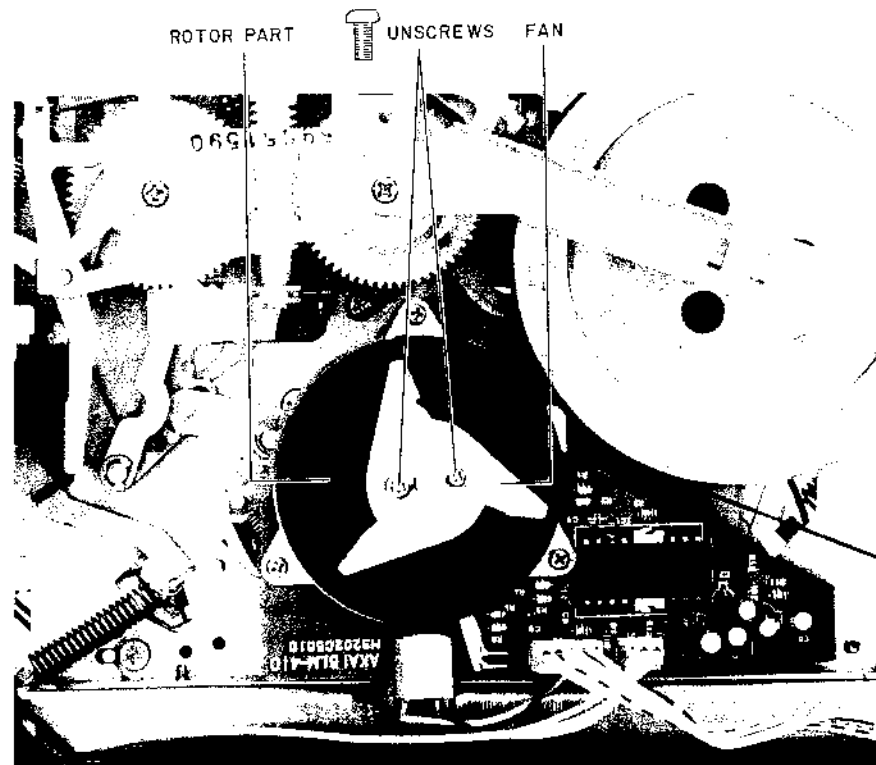
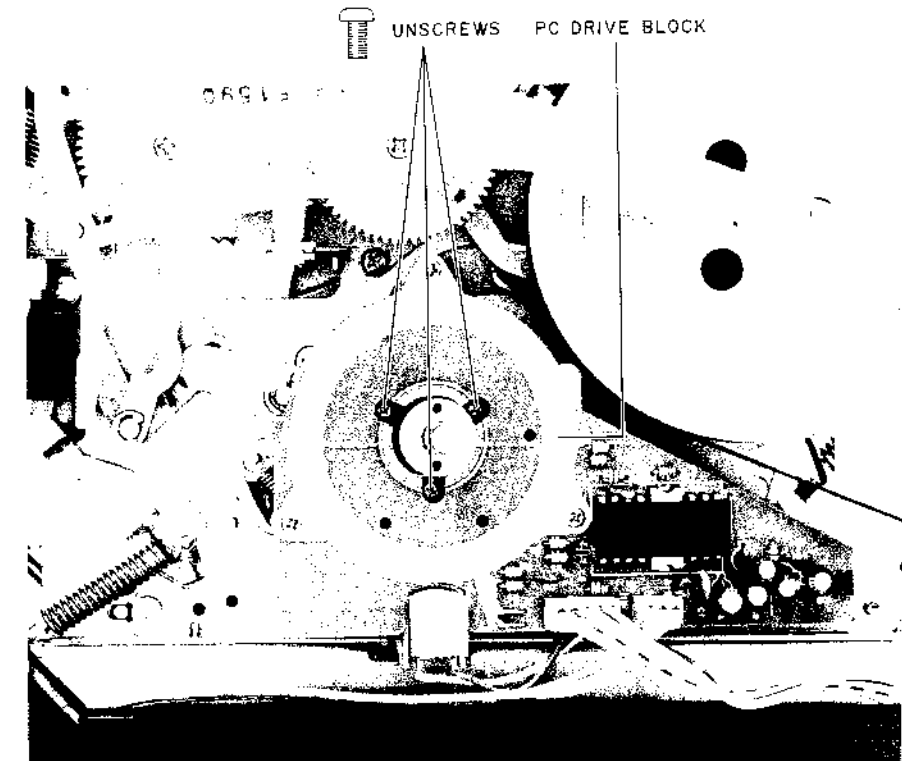

Fig. 6-2
Fig. 6-3
- 5) Remove the Fan and the Drum Motor Block (BLM-410) as shown in Fig. 6-2, Fig. 6-3.